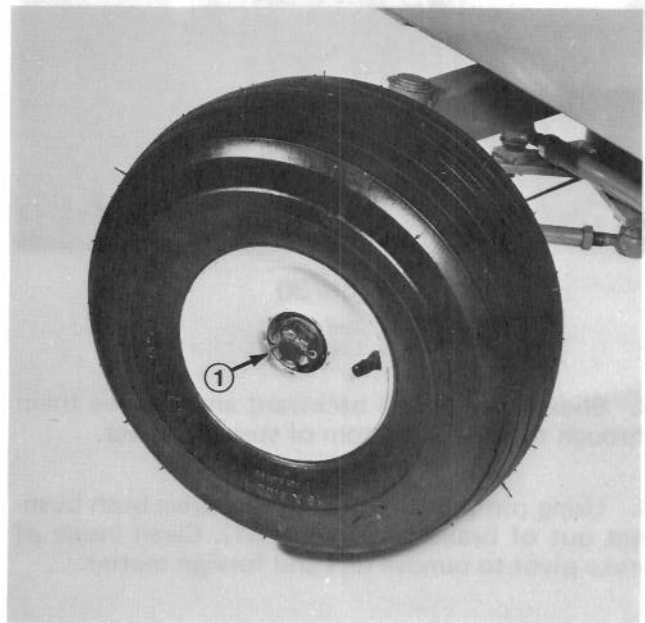

Figure 35
2. Remove dust cap from end of wheel spindle. Also remove cotter pin retaining slotted nut in place (Fig. 35).